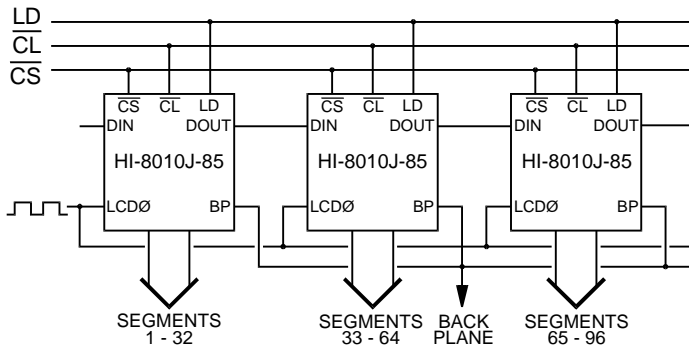

Figure 2
The backplane output functions in 1 of 2 modes; externally driven or self-oscillating. When the LCD \emptyset input is externally driven with the LCD \emptyset OPT input open circuit (Figure 2), the backplane output will be in-phase with LCD \emptyset . Utilizing the self-oscillating mode, inputs LCD \emptyset and LCD \emptyset OPT are tied together and connected to an RC circuit (Figure 3). A 150K Ω resistor with a 470pF capacitor generates an approximate backplane frequency of 100Hz. The LCD \emptyset /LCD \emptyset OPT oscillator frequency is divided by 256 to determine the backplane output frequency. The resistor value (R) must be at least 30K Ω for proper self-oscillator operation.
For displays having a number of segments greater than 38, two or more of the display drivers may be cascaded together by connecting the serial data output (DOUT) from the first driver, to the serial data input (DIN) of the following driver, etc. (See Figures 2 & 3). Data out (DOUT) will change state